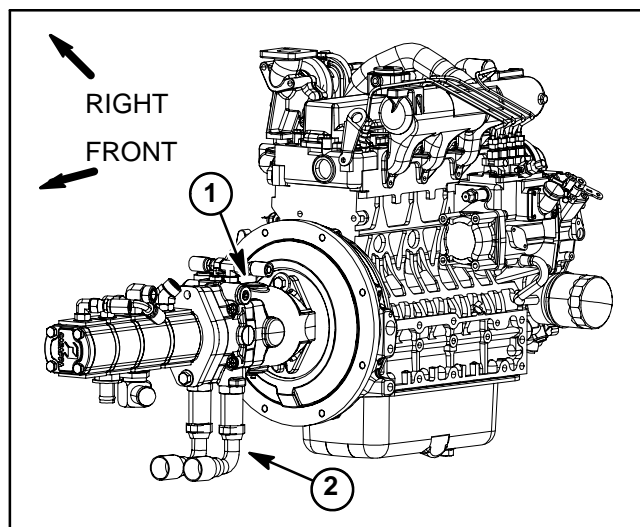

Figure 54
3. Thoroughly clean junction of hydraulic hose and **left** side elbow fitting on bottom of traction pump (Fig. 54). Disconnect hose from left side pump fitting.